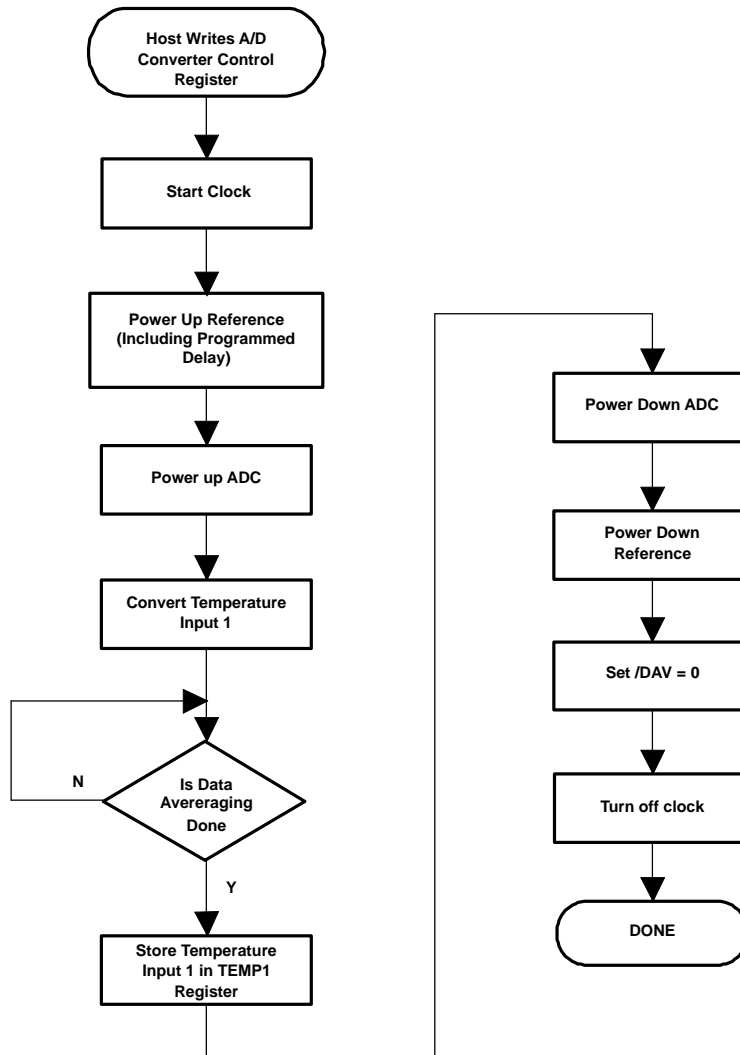

Figure 62. Single Temperature Measurement Mode
The TSC2300 offers two modes of temperature measurement. The first mode requires calibration at a known temperature, but only requires a single reading to predict the ambient temperature. A diode, as shown in Figure 61, is used during this measurement cycle. The voltage across this diode is typically 600 mV at +25°C while conducting a 20- $\mu$ A current. The absolute value of this diode voltage can vary several millivolts, but the temperature coefficient (TC) of this voltage is very consistent at -2.1 mV/°C. During the final test of the end product, the diode voltage would be measured by the TSC2300's ADC at a known room temperature, and the corresponding digital code stored in system memory, for calibration purposes by the user. The result is an equivalent temperature measurement resolution of 0.3°C/LSB. This measurement of what is referred to as Temperature 1 is illustrated in Figure 62.